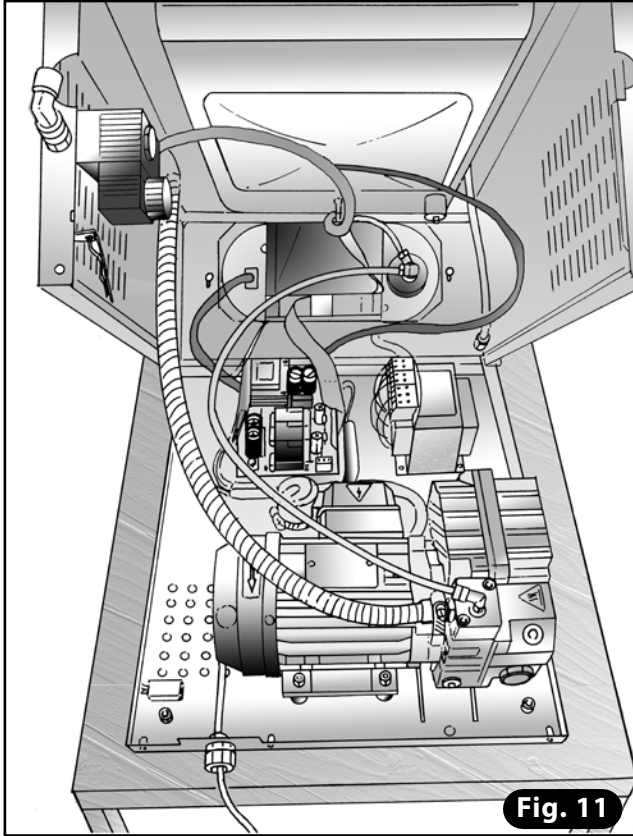

Fig. 11
- 11) Put the sealing bar back in the tank, making sure it engages correctly with the electrical contacts (**Fig. 11**).
- 17) Remove the rod from the guide and put it back in its place on the base (Fig. 11).